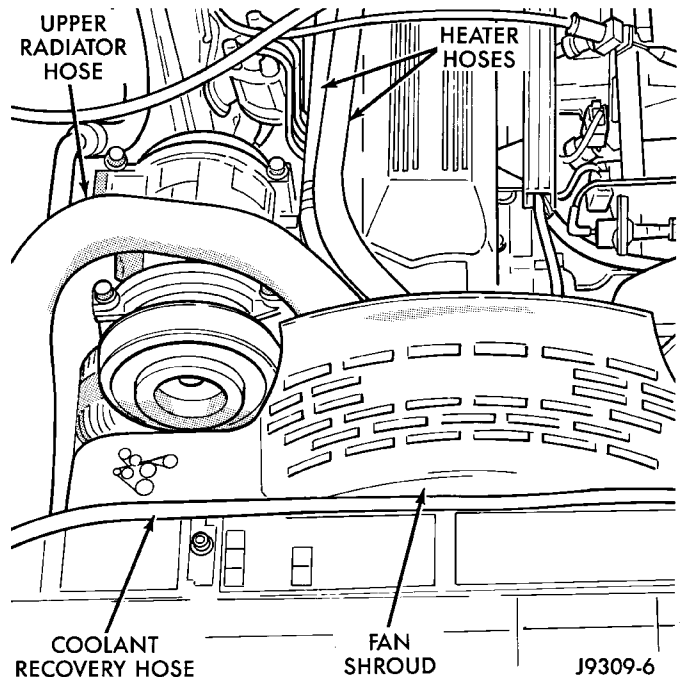

Fig. 29 Upper Radiator Hose, Coolant Recovery Hose, Fan Shroud & Heater hoses
- (1) Disconnect the battery negative cable.
(2) Mark the hinge locations on the hood panel for alignment reference during installation. Remove the engine compartment lamp. Remove the hood.
(3) Remove the radiator drain cock and radiator cap to drain the coolant. DO NOT waste usable coolant. If the solution is clean, drain the coolant into a clean container for reuse.
(4) Remove the upper radiator hose and coolant recovery hose (Fig. 29).
(5) Remove the lower radiator hose.
(6) Remove upper radiator support retaining bolts and remove radiator support.
(7) Remove the fan assembly from the water pump.
(8) Remove the fan shroud (Fig. 29).
(9) Disconnect the transmission fluid cooler lines (automatic transmission).
(10) Discharge the A/C system. (Refer to Group 24, Heating and Air Conditioning)
(11) Remove the service valves and cap the compressor ports.
(12) Remove the radiator or radiator/condenser (if equipped with A/C).
(13) Disconnect the heater hoses at the engine thermostat housing and water pump (Fig. 29).